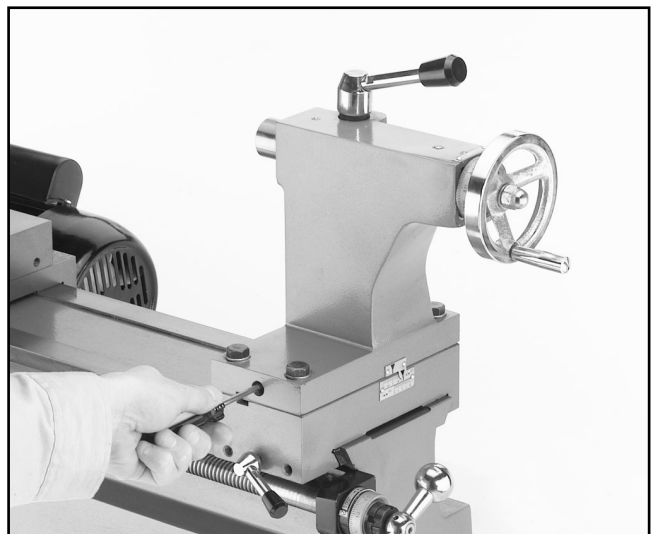

Figure 36. Tailstock offset adjustment screw.
7. Loosen the 4 tailstock mounting bolts. Adjust the tailstock offset by the amount of the taper by turning the adjustment setscrews. **See Figure 36.** Turn another .010" off of the stock and check for taper. Repeat as necessary until the desired amount of accuracy is achieved.